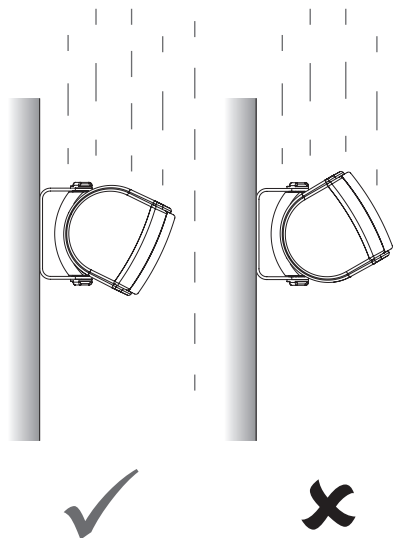

Figure 1. Qi 45EW installation orientation when exposed to rain.
- The Qi 45EVV should NOT be positioned where water or rain will be driven directly into the grille (Figure 1). The speaker should always be mounted such that water will naturally drain away from the grille. For IPX4 protection in wet environments, the rubber ports plugs must be fitted.